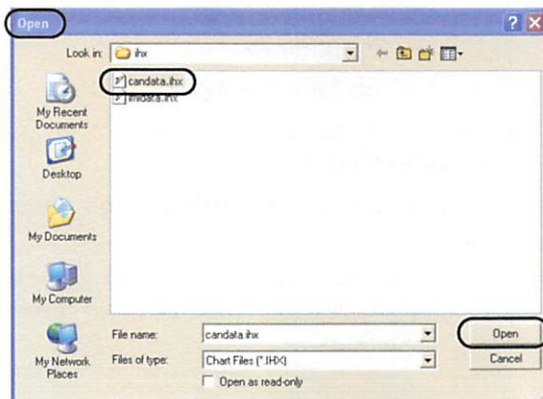

FIGURE 27
11. Locate on **Open** screen and click on **candata.ihx** icon to select file (see Figure 27). Click on **Open** button to open file. Rated capacity charts will now begin to load.